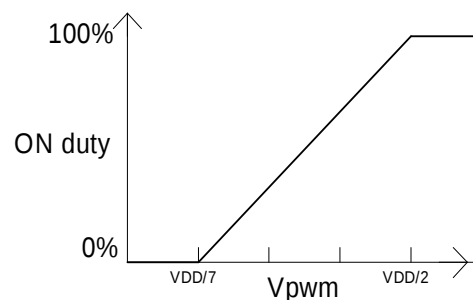

Fig.4
Applying a constant(DC) voltage to the PWM pin and the FD036 will generate PWM pulses internally with the "ON" $H/(L+H)$ duty cycle ratio according to the diagram below(Fig.4), which can be utilized by the user to control the speed of the motor. The rotation speed will be higher if the voltage applied to the PWM pin is higher.